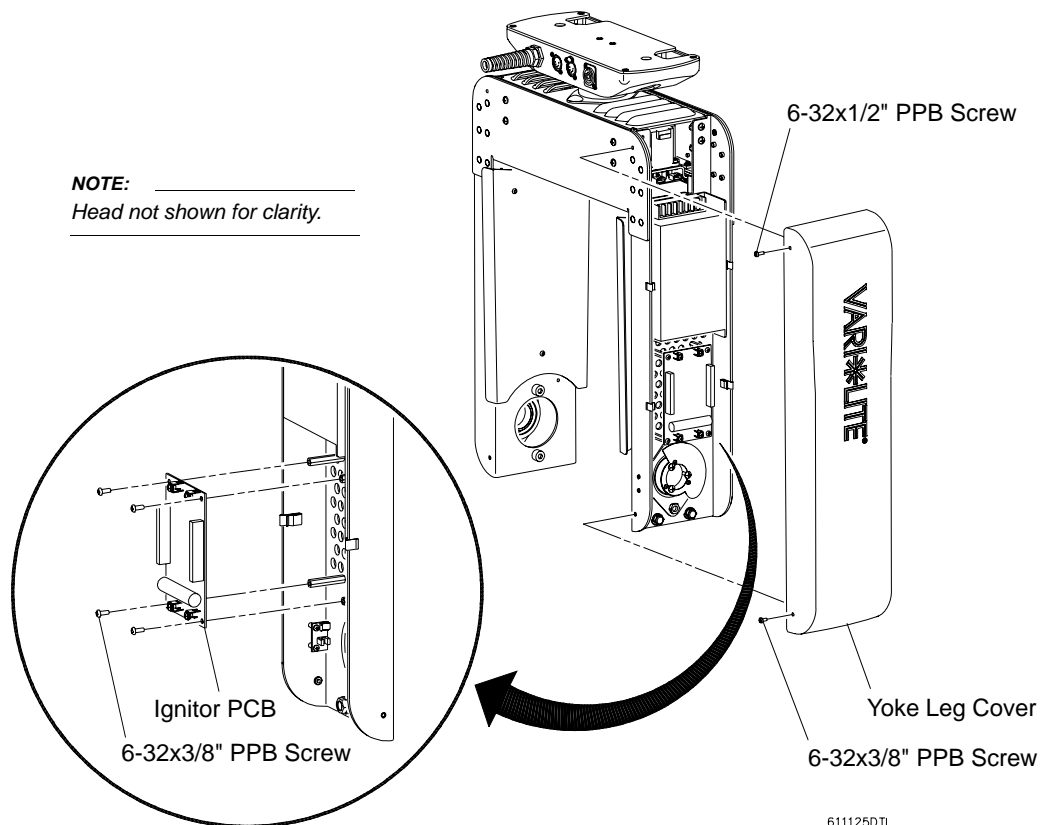

Figure 2-21: Ignitor PCB Replacement
- Step 2. Remove yoke leg cover (side without menu display) by removing four 6-32x3/8" PTB screws as shown in **Figure 2-21**.